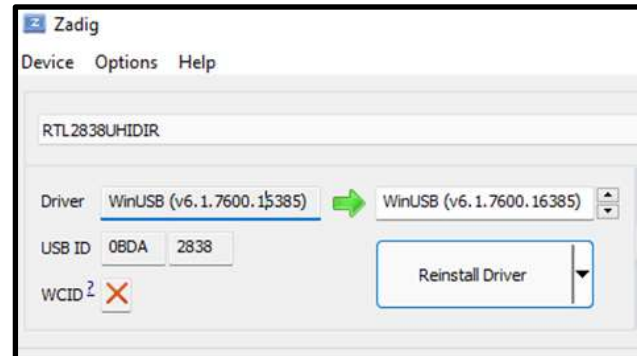

Figure 7 Correct configuration for driver selection.
8. Select RTL2832UHIDIR or RTL2832U from the drop down list in the center of the Zadig dialog box. Do NOT select “Bulk-In, Interface (Interface 0)”, “Bulk-In, Interface (Interface 1) ” or “USB Receiver (Interface 0)”. Also, ensure that WinUSB is selected in the box next to where it says driver. (Figure 7).